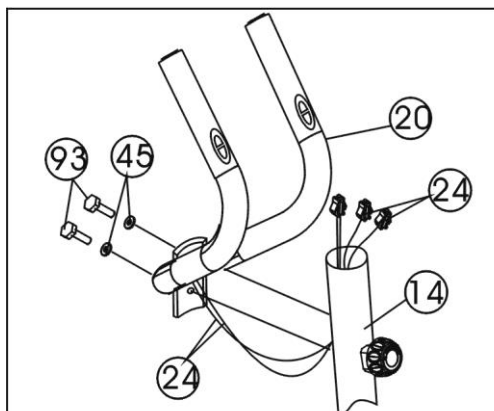
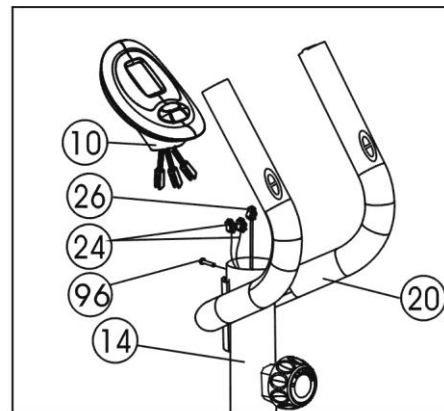

Figure 4
Figure 5
- a. Insert the hand pulse wires (24) from hand pulse bar (20) into the hole on the back of Front upright frame (14) and then pull them out from the upper hole of Front upright frame (14).
- b. Attach the hand pulse bar (20) to the groove of Front upright frame (14) with two pcs of Φ 8 arch spacers (45), and M8 x 16 bolts (93). (Refer figure 4)
- a. Connect the Pulse wires (24) with Sensor wire 2 (26) and put the extra wires into the tube.
- b. Attach the Computer (10) to the top of the Front upright frame (14) and tighten with Crosshead bolt M5 x 10 (75). (Refer figure 5)